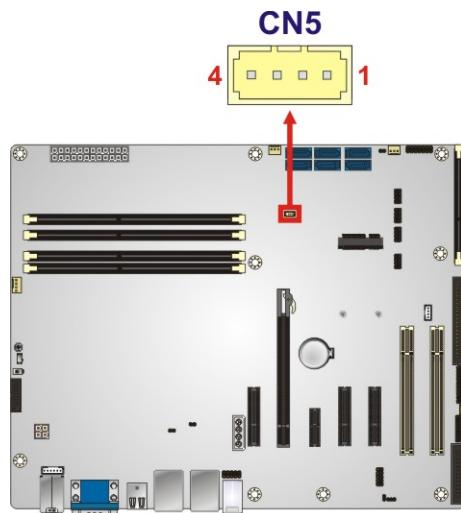

Figure 3-14: I²C Connector Location
3.2.13 I²C Connector**CN Label:** CN5**CN Type:** 4-pin wafer**CN Location:** See **Figure 3-14****CN Pinouts:** See **Table 3-13**